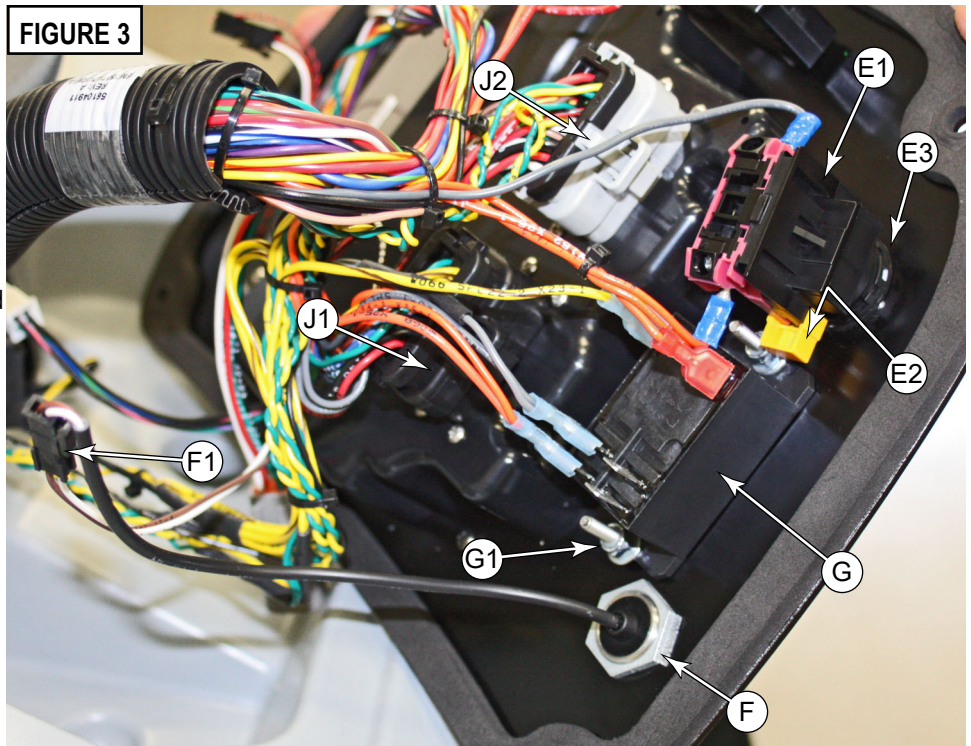

FIGURE 3
12. **See Figure 3.** Disconnect the **J1** and **J2** connectors from the main machine controller.